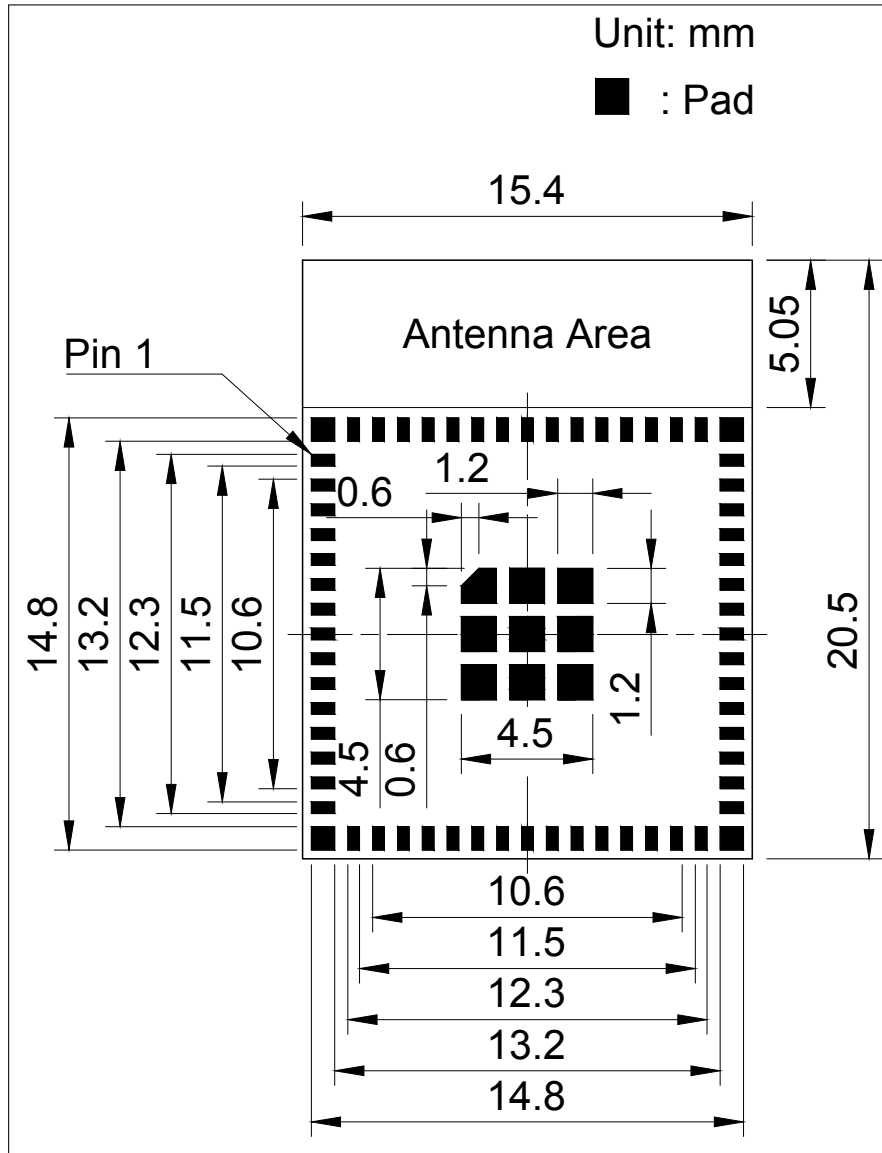

Figure 10: ESP32-S2-MINI-2 Recommended PCB Land Pattern
- Figures for recommended PCB land patterns with all the dimensions needed for PCB design. See Figure 10 *ESP32-S2-MINI-2 Recommended PCB Land Pattern* and Figure 11 *ESP32-S2-MINI-2U Recommended PCB Land Pattern*.
- Source files of recommended PCB land patterns to measure dimensions not covered in Figure 10. You can view the source files for ESP32-S2-MINI-2 and ESP32-S2-MINI-2U with Autodesk Viewer.